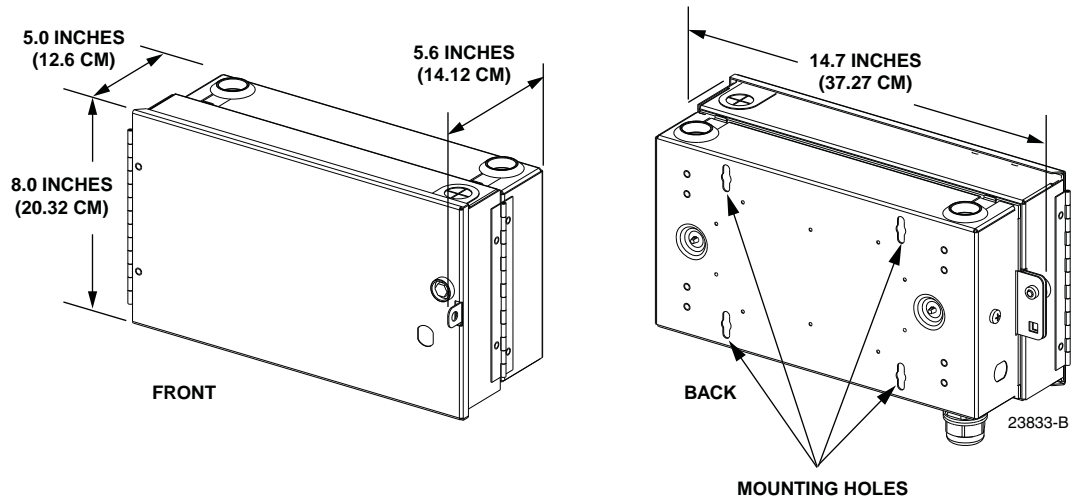

Figure 2. Cabinet Dimensions
3. Attach the template provided with the unit to the plywood backer. The cabinet dimensions are shown in Figure 2.